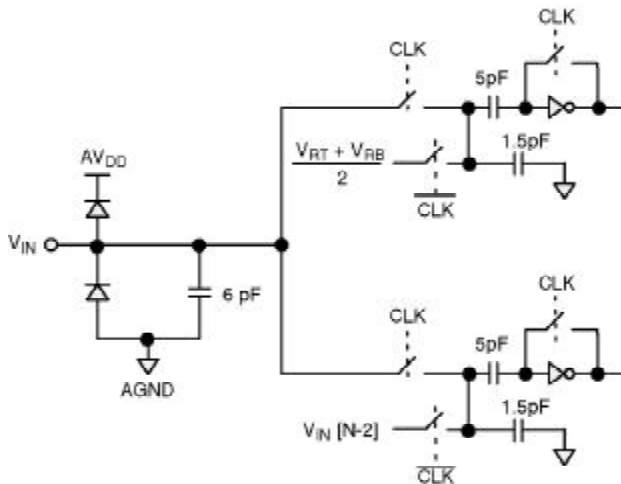

Figure 5. Equivalent Input Circuit
- See V_{IN} input equivalent circuit (Figure 5). Switched capacitor analog input requires driver with low output resistance.
The reference can be biased internally by shorting V_{RT} to V_{RTS} and V_{RB} to V_{RBS} . This will generate $0.6V$ at V_{RB} and $2.6V$ at V_{RT} (see Figure 5).